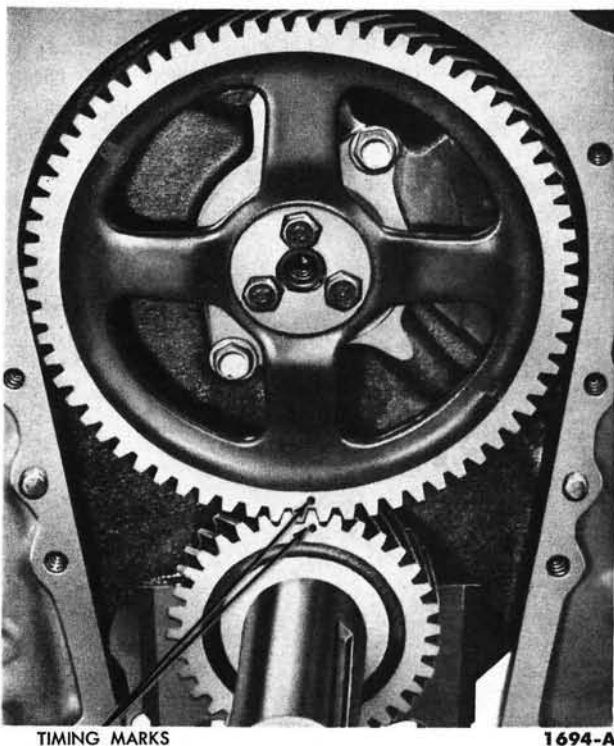

FIG. 31—Timing Gear Alignment
3. Remove the crankshaft front oil slinger. Align the timing marks on the timing gears (Fig. 31) and remove the camshaft gear retaining bolts, then remove the camshaft gear.
1. Install the crankshaft gear (Fig. 34) and the camshaft gear with the timing marks aligned (Fig. 31), then install the camshaft gear retaining bolts. **The bolts are unequally spaced.** Tighten the bolts to 12-15 foot-pounds torque. Install the crankshaft front oil slinger.
3. Remove the crankshaft front oil slinger. Align the timing marks on the camshaft and crankshaft timing gears (Fig. 31).
1. Oil the camshaft and carefully slide it through the bearings with the gear, spacer and thrust plate attached (Fig. 37). Be sure the camshaft is installed so that the timing mark on the camshaft gear is aligned with the timing mark on the crankshaft gear (Fig. 31). Install the thrust plate retaining bolts and tighten them to 12-15 foot-pounds torque.